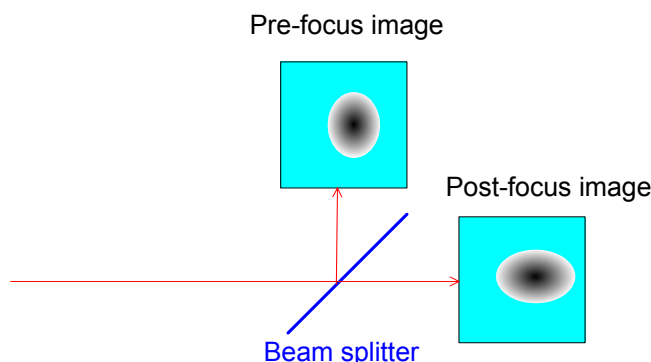

Figure 8 Schematic layout of LOWFS with 2 CCD detectors
- An autoguider (AG) which has two discrete 1024x2048 pixel CCD detectors at opposite sides of the focal plane (labelled “1” or “py” on the positive Y side and labelled “2” or “ny” on the negative Y side). The autoguider is designed to operate with a guide star image falling on *one* of the detectors (the other detector is not used for normal operations³). It may be thought of as a single autoguider whose target field consists of two discrete rectangles.
- Two low order wavefront sensors (LOWFS) at opposite sides of the focal plane (also labelled “1” or “py” and “2” or “ny”). Each LOWFS contains a beam splitter which sends pre-focus and post-focus images to two 2048x2048 pixel CCD detectors, as shown in Figure 8. So there are four LOWFS detectors altogether; two for each LOWFS.